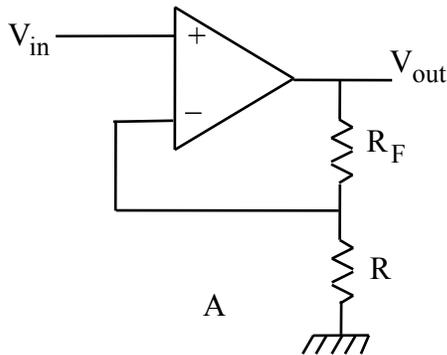

Figure 4.2 Non-inverting Amplifier
The two basic op-amp circuit configurations are shown in Figs. 4.2 and 4.3. Both circuits use negative feedback, which means that a portion of the output signal is sent back to the negative input of the op-amp. The op-amp itself has very high gain, but relatively poor gain stability and linearity. When negative feedback is used, the circuit gain is greatly reduced, but it becomes very stable, limited only by the temperature dependence of the resistors R and R_F . At the same time, linearity is improved and the output impedance decreases.
where the denominator is the difference between the voltages applied to the + and - inputs. We use the symbol G for the gain of the complete amplifier with feedback: $G \equiv V_{out}/V_{in}$. This gain depends on the resistor divider ratio $B \equiv R/(R+R_F)$. In feedback amplifier lore A is called the open loop gain, G is called the closed loop gain, and the product $A \cdot B$ is called the loop gain. You can see the reason for these names if you imagine opening the feedback loop in Fig. 4.2 by disconnecting the - input.
The basic formula for the gain of feedback amplifiers is derived in FC, Section 12.5. From Fig. 4.2 we can see that:
2. (3 points) Calculate the values of low frequency gain G_0 (choose the correct version of the formula) and the bandwidth f_B for the non-inverting amplifier in Fig. 4.2. Consider the cases with $R_F = 100$ k Ω for all, and $R = 100$ Ω , 1 k Ω , and 10 k Ω . Also consider the voltage follower, with $R_F=0$ and $R=\infty$ (note there are four cases). Draw Bode plots for the open loop gain and the four closed loop gains on the same graph. Estimate the input and output impedances of the amplifier with $R_F = 10$ k Ω and $R = 100$ Ω for 1 kHz sine waves.